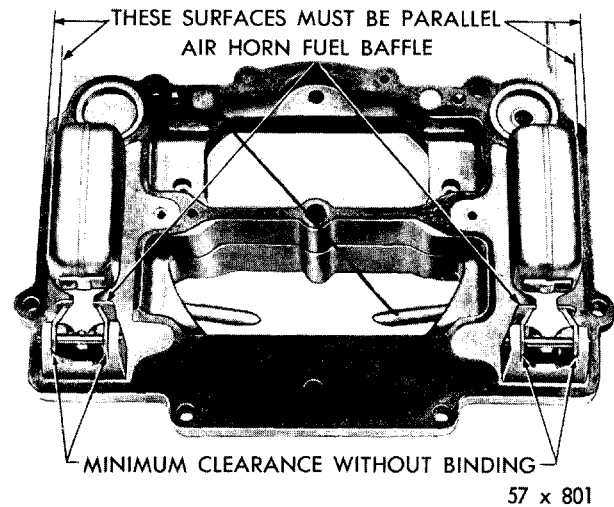

Fig. 10—Checking Float Alignment
(1) Sight down the side of each float shell to determine if the side of the float is parallel to the outer edge of the air horn casting, as shown in Figure 10.
(2) If the sides of the float are not in alignment with the edge of casting, bend the float lever by applying pressure to the end of the float shell with the fingers while supporting the float lever with the thumb. **To avoid damage to the float, apply only enough pressure to bend the float lever.**
(3) After aligning the floats, remove as much clearance as possible between the arms of the float lever and the lugs on the air horn. To do this, bend the float lever. The arms of the float lever should be parallel as possible to the inner surfaces of the lugs or the casting.